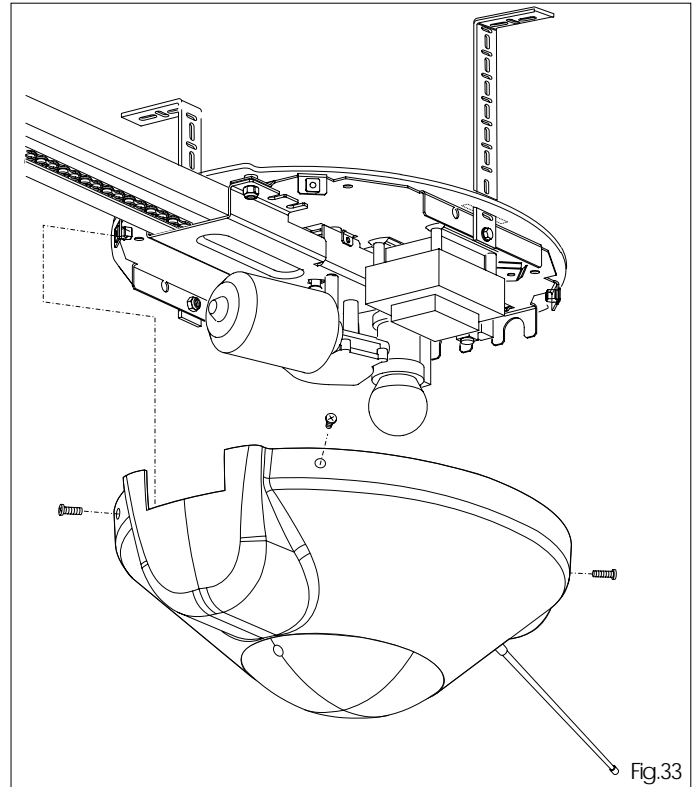

Fig.33
9.6 Secure the operator housing using appropriate screws (fig. 33).